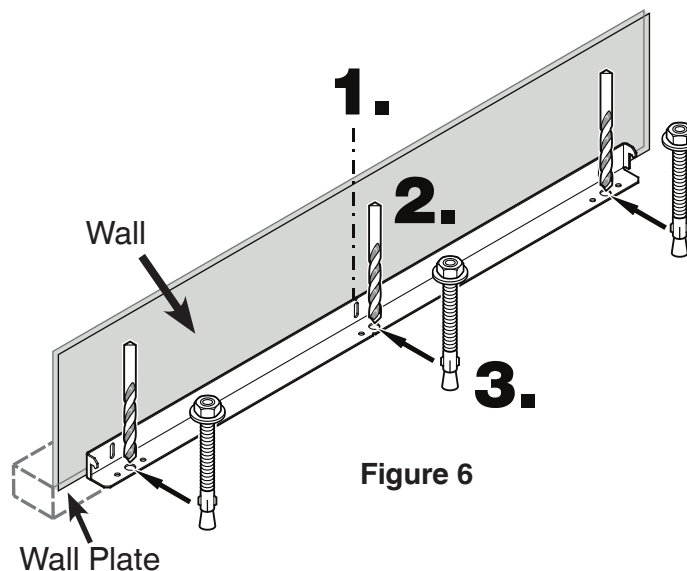

Figure 6
Mounting the anti tipping device on concrete floors - Figure 6 - 7
2. Drill a 3/8" diameter hole in any position as shown in Figure 6 using a carbide drill bit.